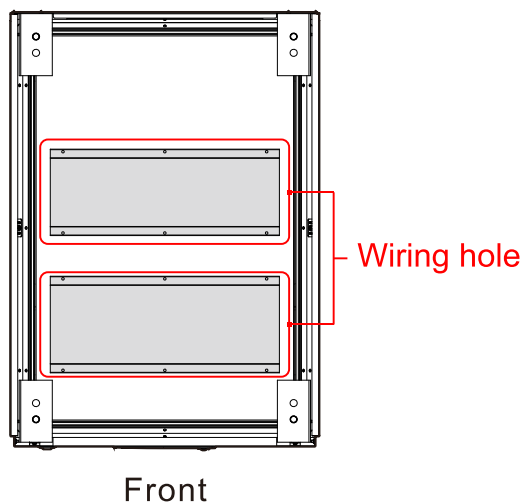
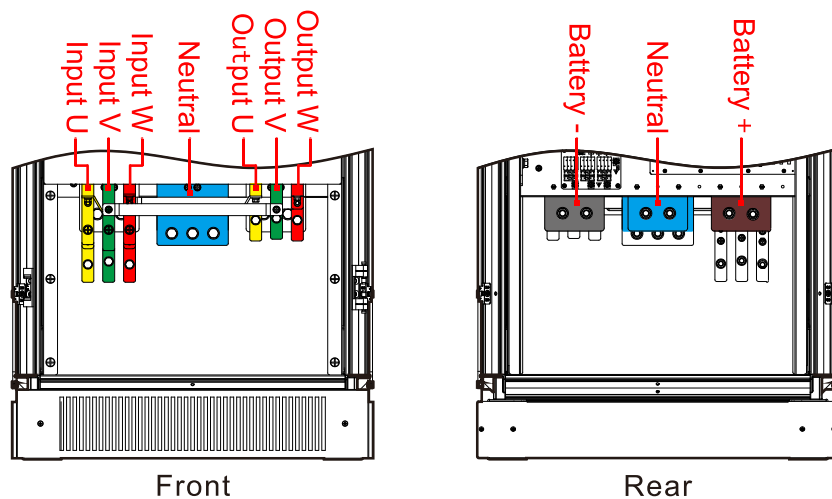

Figure3-29 The position of wiring hole
Figure3-30 The position of the copper bar
- Step 2 Draw the input wires, output wires, battery wires through the bottom wiring holes(as shown in Figure3-29), connect them to the corresponding copper bar(as shown in Figure3-30) respectively, and fasten the bolts.